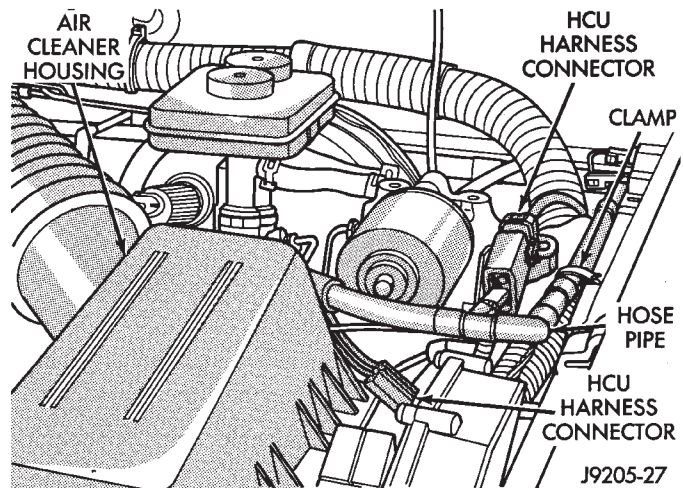

Fig. 14 Air Cleaner And Harness Connector Location (XJ)
- (1) Remove air cleaner.
- (2) Remove clamp that secures air cleaner hose and pipe to fender apron (Fig. 14).